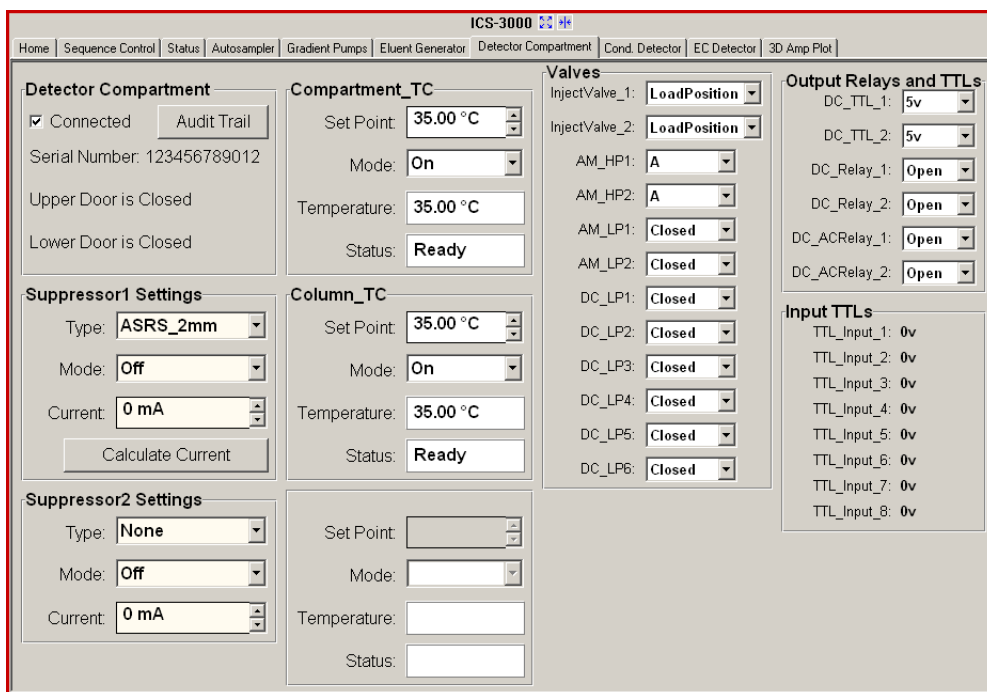

Figure 4-5. DC Control Panel
2. To display the DC Control panel, select the **Detector Compartment** tab (see Figure 4-5).